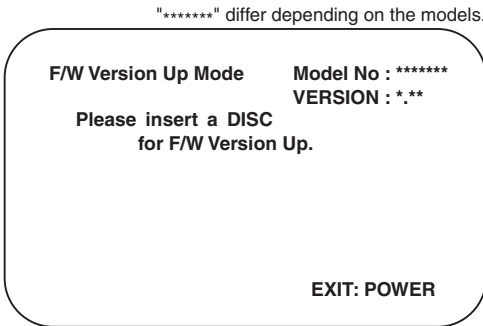
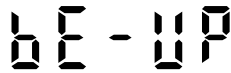

Fig. 3 Version Up Mode Screen
Fig. 4 VFD in Version Up Mode
2. To put the DVD player into version up mode, press [9], [8], [7], [6], and [SEARCH MODE] buttons on the remote control unit in that order. The tray will open automatically. Fig. 3 appears on the screen and Fig. 4 appears on the VFD.
The DVD player can also enter the version up mode with the tray open. In this case, Fig. 3 will be shown on the screen while the tray is open.